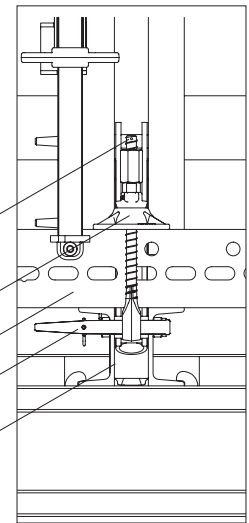

Fig. B6.02a
1. Bolt column tie yoke (43) to Steel Waler SRU U120 (1f).
2. Fix Steel Waler SRU U120 (1e) to Steel Waler SRU U120 (1f) with column tie yoke (43) and Wingnut Pivot Plate DW 15 + secure with Nut DW 15. (Fig. B6.02a)
3. Insert Base Standard UVB (44) into the Top Standard UVH (48) and secure with Spindle Locking UJS (46).
4. Bolt Base Standard UVB (44) onto Steel Waler SRU U120 (1e) via Spindle Head SRU (46) using 2x fitting pins Ø 21 mm (26).
5. Bolt Scaffold Tube Connector FTF (47) onto Steel Waler SRU U120 (1d) using 2x fitting pins Ø 21 mm (26) each time.
6. Attach 1x horizontal steel scaffolding tube (34a) to Scaffold Tube Connector FTF (47) and Top Standard UVH (48) with swivel couplings AF 48/48 (36).
7. Attach steel scaffolding tube (34) to the horizontal steel scaffolding tubes (34a) with swivel coupling AF 48/48 (36).
8. Fit Horizontal Ledger UH (54) between the two Top Standards UVH (48) and Base Standards UVB (44).
9. Fix Ladder Connector UAC-2 (49) to Top Standards UVH (48) and Base Standard UVB (44).
10. Assemble Ladder 180/6 (50), Access Ladder 180/2 (51) and Ladder Base (52).
11. Attach Ladder Safety Cage 150 (53) to Access Ladder 180/2 (51).
12. Fix ladder with ladder safety cage to Ladder Connector UAC-2 (49).